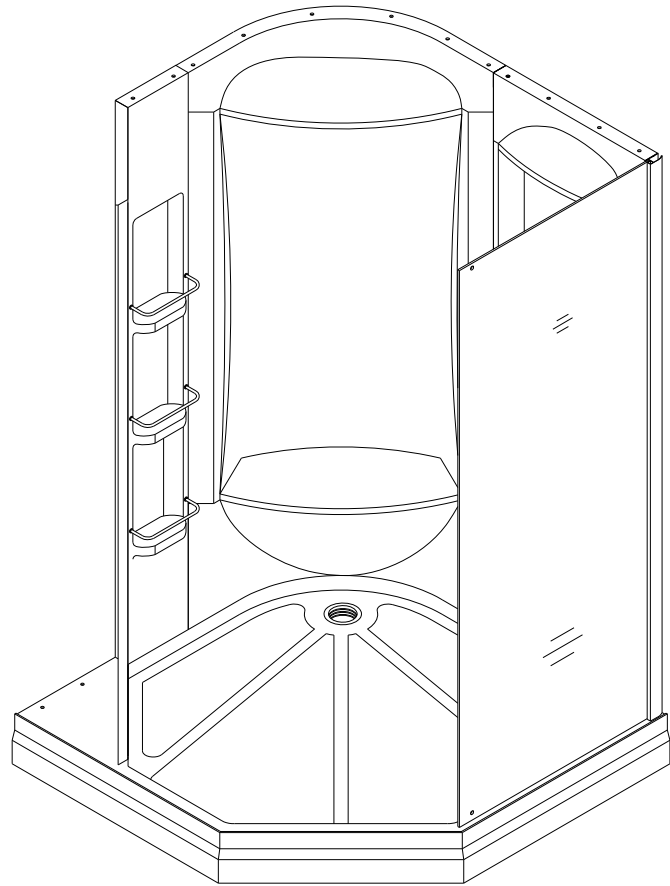

Fig 10
Install the **Wide stationary glass (07)** to the side panel with **Bolt M6x16 (24)**. Apply silicone sealant between the side panel and the aluminum profile. See Fig 10 and Fig 11 for details